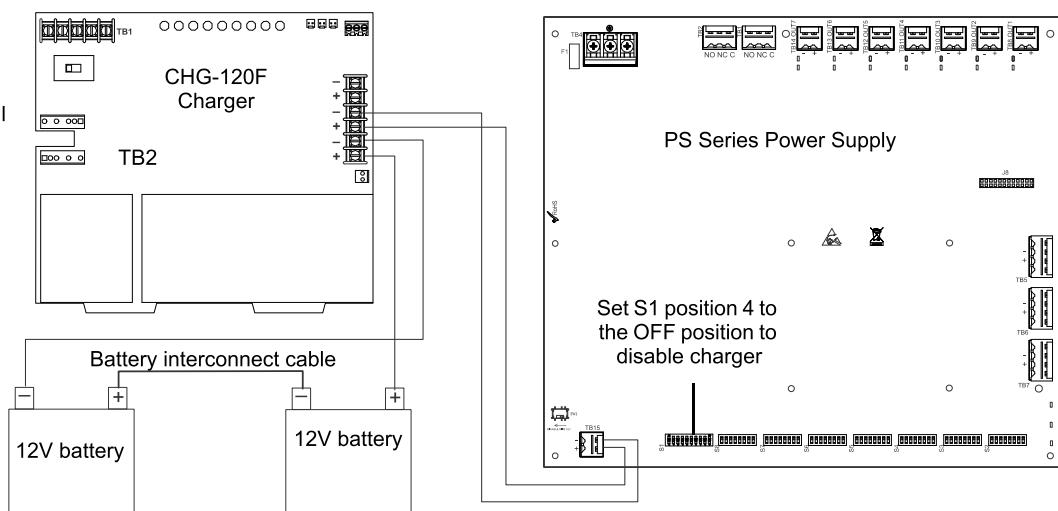

Figure 2.9 Connecting the Power Supply to a CHG-120F Charger
2. Connect the battery cables between TB15 (+ and -) on the FL-PS and the CHG-120F charger output circuit (TB2: Out 1+ and Out 1-) as shown in Figure 2.9. Be certain to observe polarity.